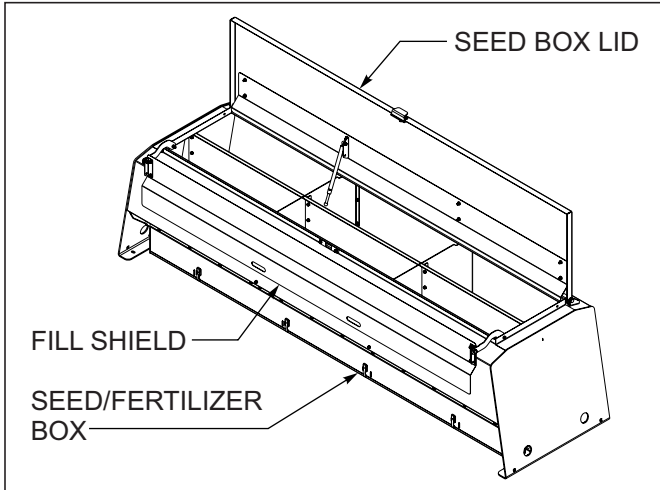

Figure 4-19: Both Compartments Filled w/ Seed
- When both compartments are being used for seed, open seed box lids and lift and rotate the fill shield over the rear of the seed box. This allows the compartments to be filled at the same time. This also improves access for maintenance and cleaning (See Figure 4-19.)